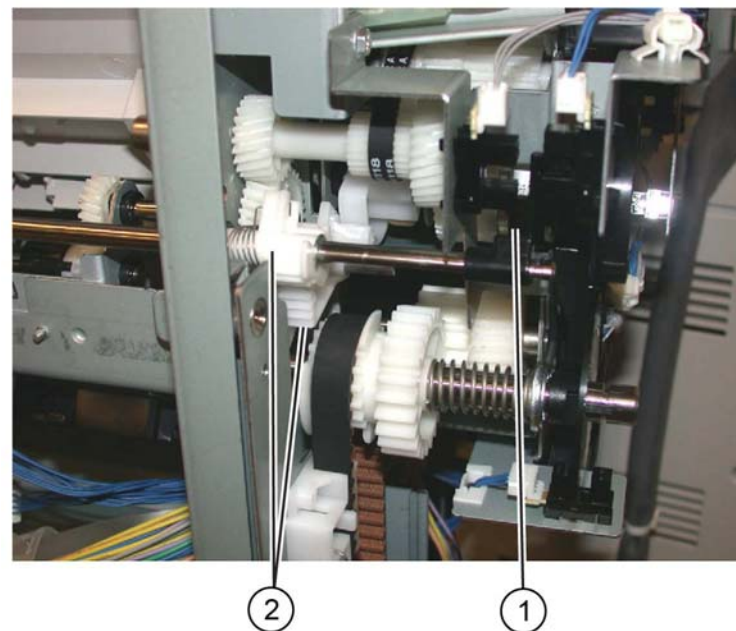

Figure 14 Sensor flag and gear alignment
6. Rotate the set clamp shaft until the stack height sensor flag (1) is in the correct position, then correctly align both gears (2), **Figure 14**.